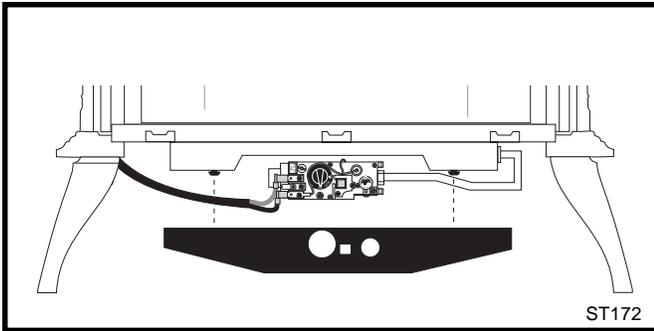

Fig. 17 Remove the valve cover plate.
1. **Remove the valve coverplate.** Use a stub handle phillips screwdriver to loosen the two retainer screws and pull the coverplate forward. (Fig. 17)